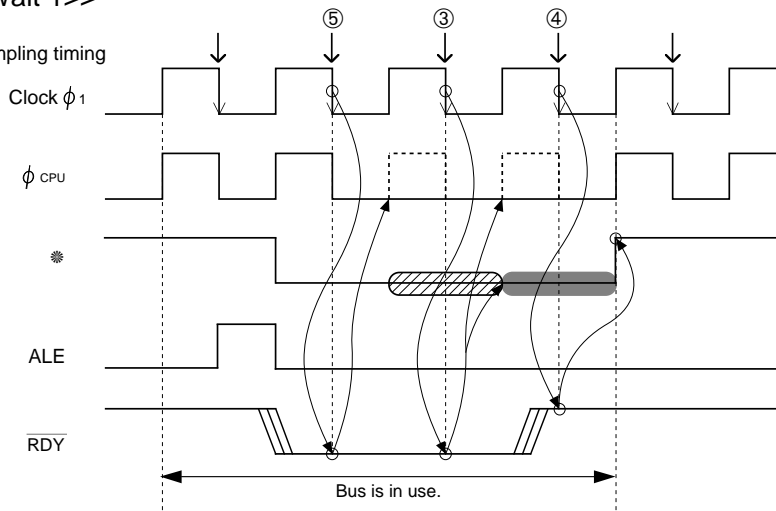

Fig. 12.3.2 Timings when ready state is accepted and terminated (when not using signal $\overline{\text{RSM}}$)
- When the levels of signals RDE, WEL, and WEH are “H” while the bus is in use (Refer to ② in Figure 12.3.2.)
- Immediately before a wait generated by the software wait (Refer to ⑤ in Figure 12.3.2.)
When “L” level is input to pin $\overline{\text{RDY}}$, this signal is accepted at the falling edge of clock ϕ_1 and the microcomputer enters the ready state. The ready state can be terminated by setting pin $\overline{\text{RDY}}$'s level to “H” again. When “H” level is input to pin $\overline{\text{RDY}}$, this signal is also accepted at the falling edge of clock ϕ_1 and the ready state is terminated. Figure 12.3.2 shows timings when the ready state is accepted and terminated.